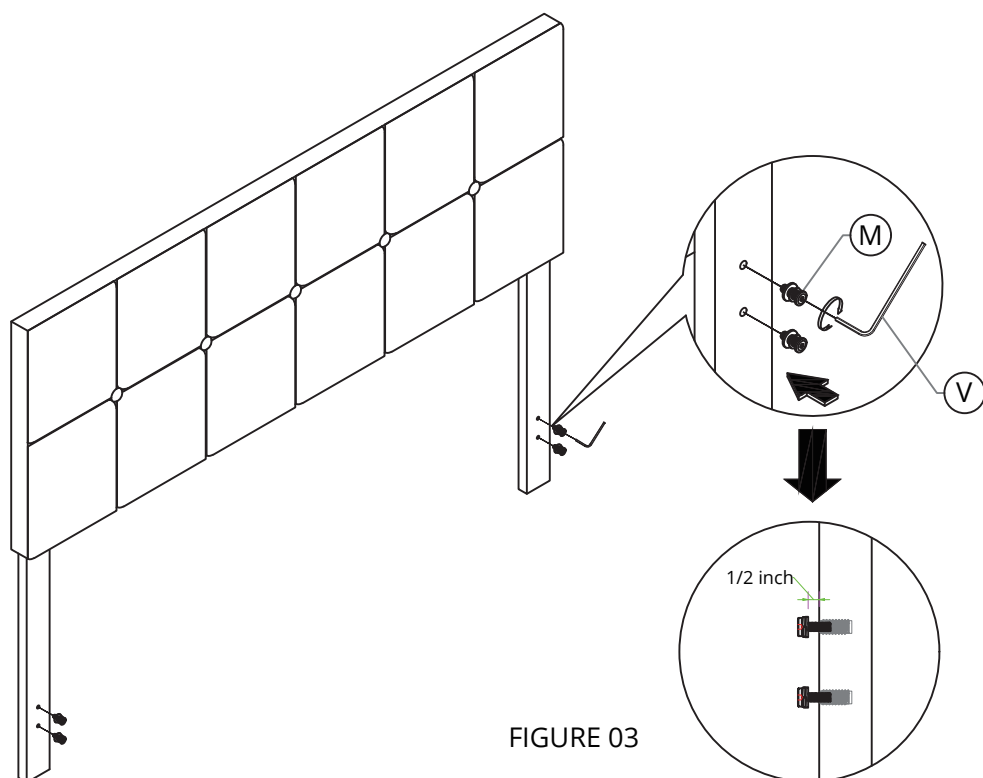

FIGURE 03
Insert set of the bolts (M) with lock washer, flat washer into the fixed nuts on the headboard by manually. NOTE: Do not fully tighten the bolts, leave at least 10mm visible so that you can hanger hook on the bolts. See FIGURE 03.